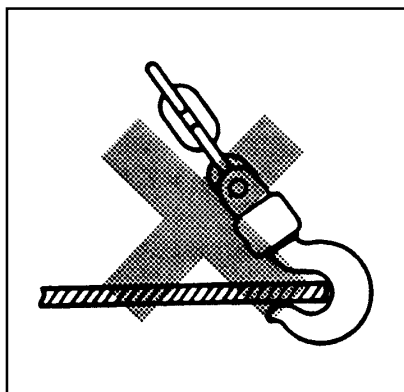

FIGURE 5
- When hooking, the load must be applied squarely to the centre of the hook and the hook must not come loose during operation. Never use the hook directly on a load (See Figure 5). Lift loads only with applicable clamps or hooks (See Figure 6).